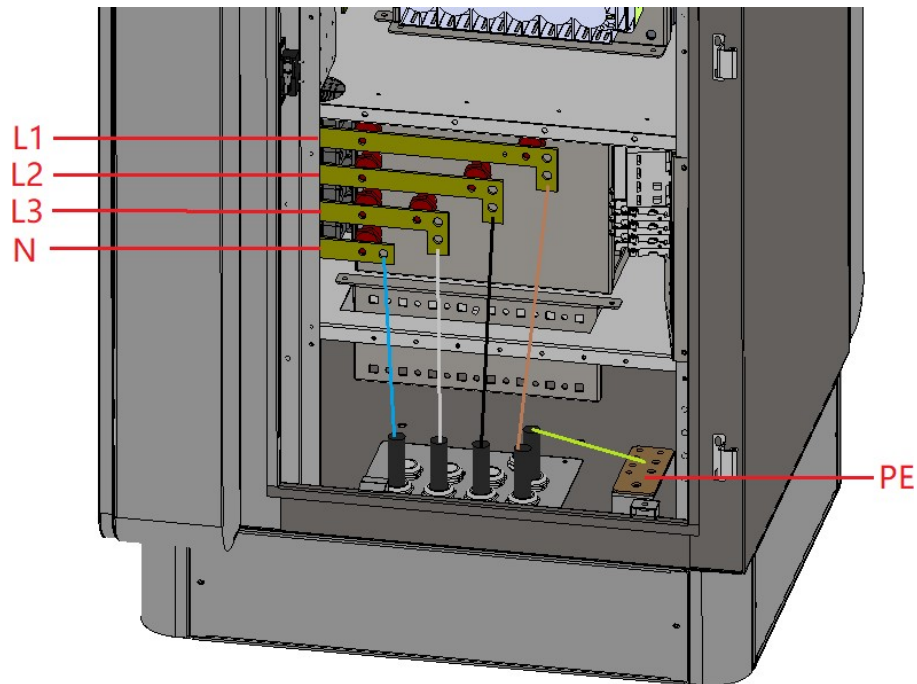

FIG.9 Power cable wiring diagram
- (1) Open the right door of the charger and put the power cable in to the charger from the bottom.
- (2) Make the power cable go through the waterproof gland as shown in Figure 9, reserve the corresponding length, crimp the copper lugs, and connect it to the corresponding terminal, and ensure that the copper lug bolts of the wiring connection are not loose; When wiring, avoid the scratch and damage of the cable insulation sheath, so as to avoid short circuit.